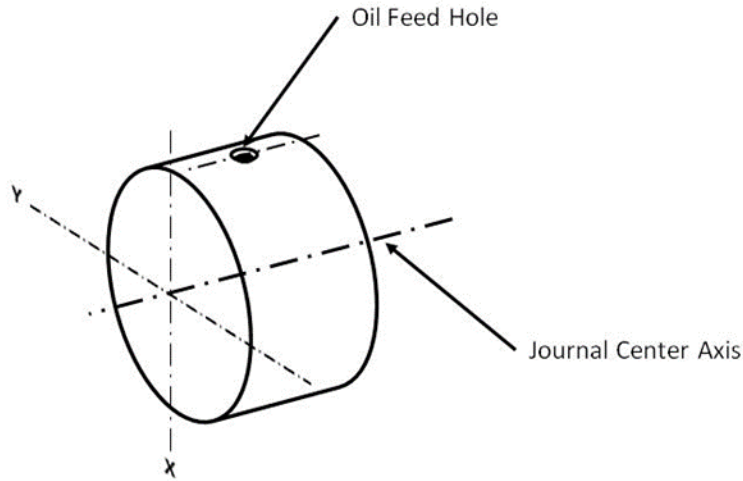

Figure 15 - X and Y-Axis of Camshaft Journal
9.5.2. Measure the diameter of the journal along both its x-axis and y-axis (Figure 15).